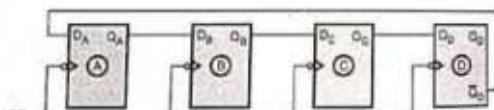

Fig. 5.10.3 Four-bit Johnson counter
- The single exception is that the complement output of the last flip-flop is connected back to the D-input of the first flip-flop as shown in Fig. 5.10.3.
- As shown in Fig. 5.10.3 there is a feedback from the rightmost flip-flop complement output to the leftmost flip-flop input. This arrangement produces a unique sequence of states.